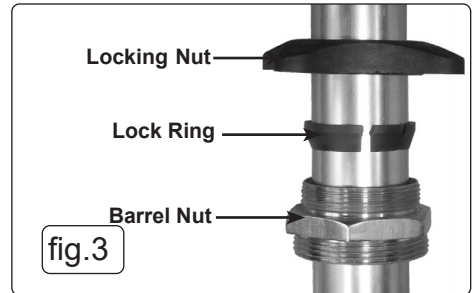

fig.3
- 4.1.4. Slide the locking nut, locking ring and the barrel nut onto the pick up probe of the pump (fig.3), screw the locking nut onto the barrel nut to lock the assembly to the pick up probe.